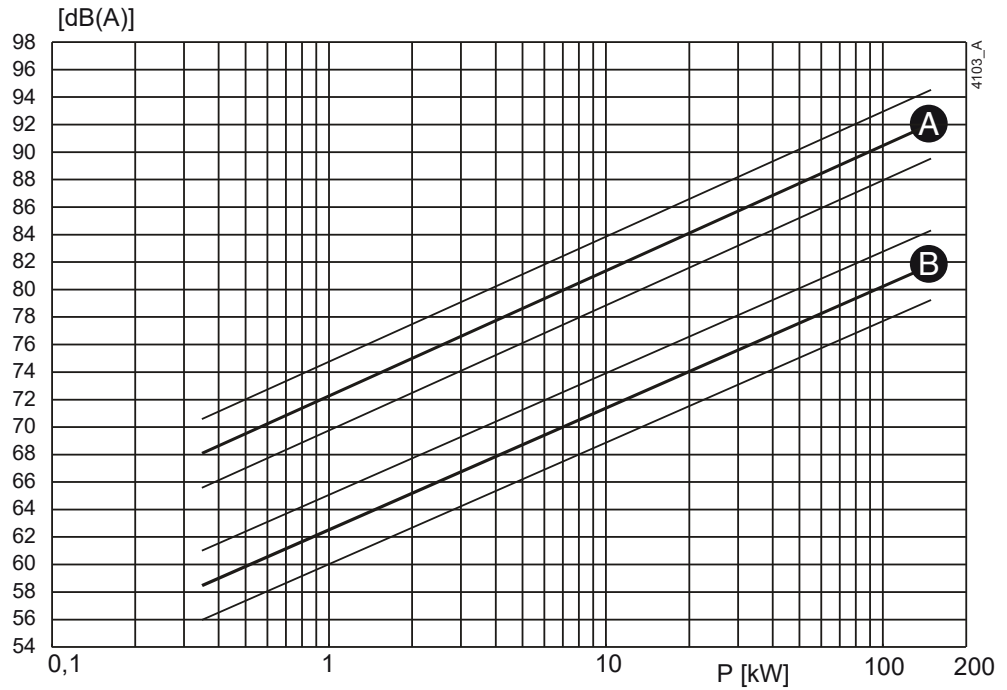
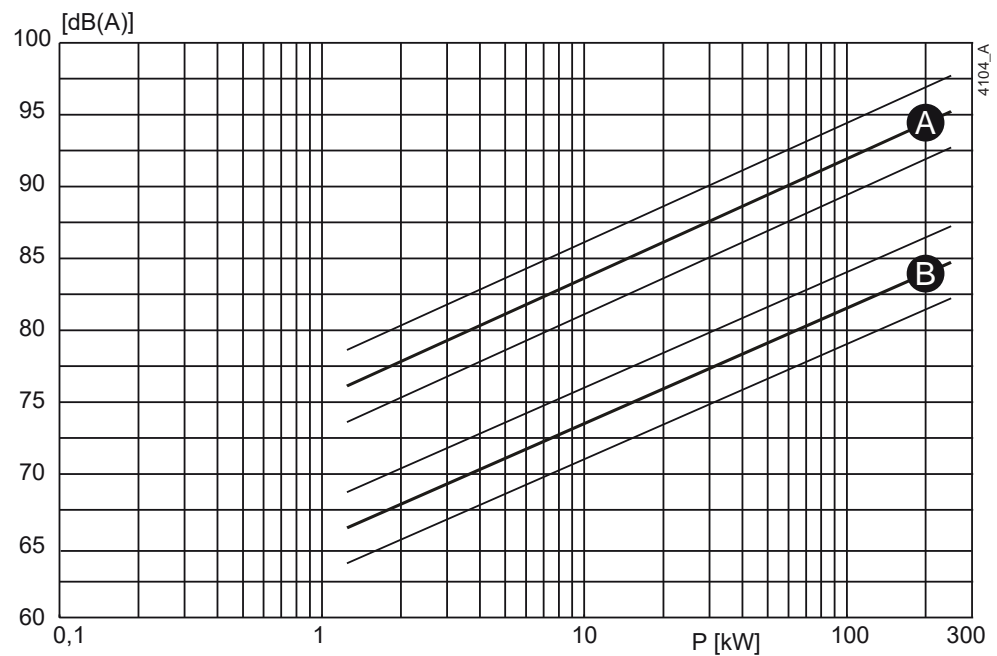

Figure 97: Noise level as function of pump power [kW] at 1450 min⁻¹
Figure 98: Noise level as function of pump power [kW] at 2900 min⁻¹
- 1 Determine the noise level (L1) of the pump, see figure 97 or figure 98.